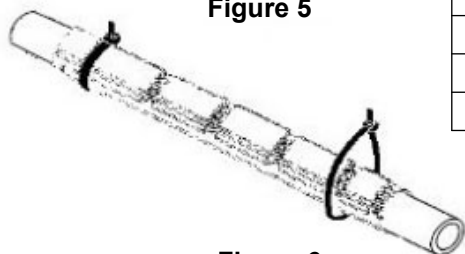

Figure 6
6. Install cable ties at outermost notches of snap locks. Splice is complete and ready for use. See Figure 6.